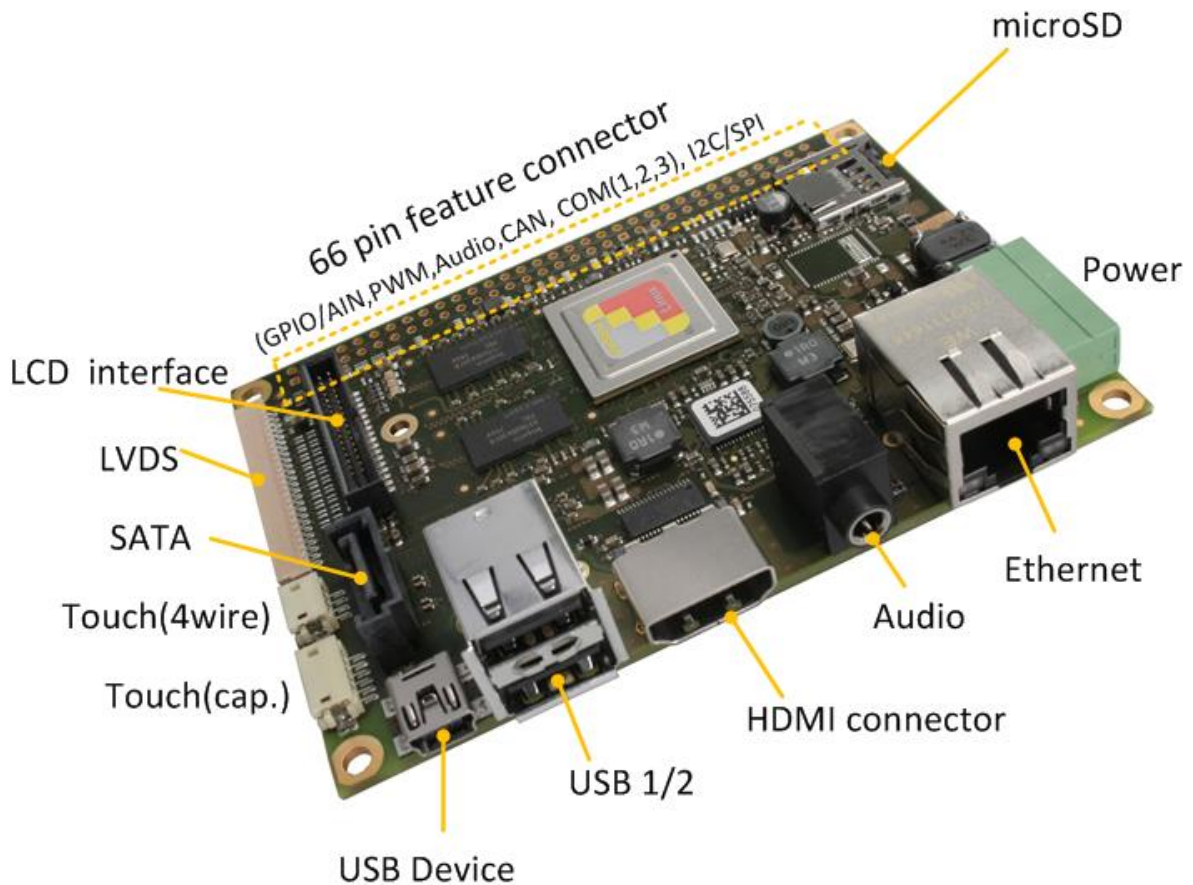

Figure 1: armStoneA9 PicoITX interfaces (top side)
Before you power on armStoneA9/armStoneA9r2, you should make a serial connection between armStoneA9/armStoneA9r2 and your PC. Please use the cables shipped with the armStoneA9/armStoneA9r2 Starterkit to connect your PC to the Debug-Port of the armStoneA9/armStoneA9r2. The Debug-Port resides on the 66 pin feature connector. (see Figure 1). The pins are located at a 10 pin dual row connector which is mounted at pin 53 to 62. That allows attaching a standard 9pin to DSUB9 adapter cable for debug output of boot loader and kernel with TX and RX to a terminal. Pin 1 of this adapter should connect on pin 53 of the 66 pin connector.
- Make a cable between power connector of armStoneA9/armStoneA9r2 (see Figure 1) and your power supply. Usually you need to connect ground and +5V (2A).